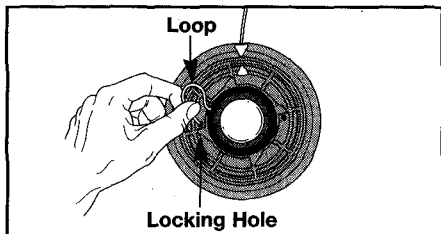

Fig. 20
3. Insert the line into the **locking hole** no more than 1/2 inch (12.7 mm) (Fig. 20). Do not push the line too far into the inner reel. A small loop is formed when the line is inserted correctly (Fig. 20).